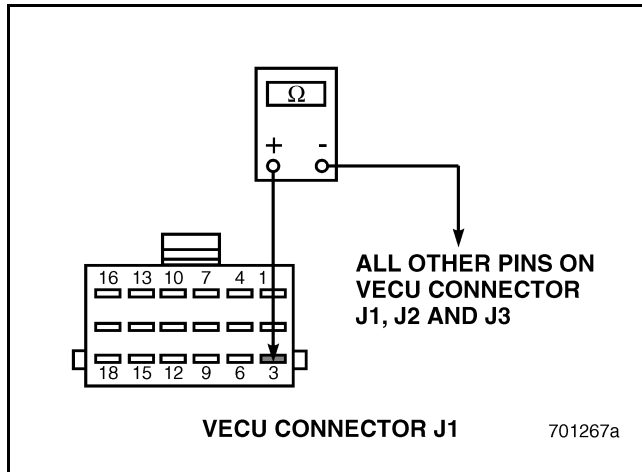

Figure 516
5. Check for continuity between VECU connector J1 pin 3 and all other pins on VECU connectors J1, J2 and J3 (see Figure 516).